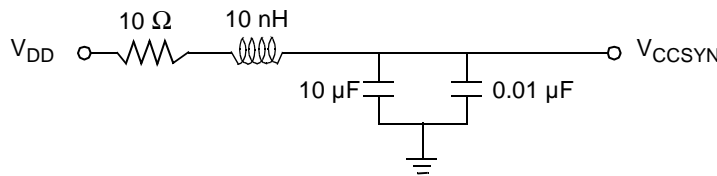

Figure 3. PLL Power Supply Filter Circuit
- PLL Power Supply Filtering.** The MSC8102 V_{CCSYN} power signal provides power to the clock generation PLL. To ensure stability of the internal clock, the power supplied to this pin should be filtered with capacitors that have low and high frequency filtering characteristics ($0.01\ \mu\text{F}$ and $10\ \mu\text{F}$). V_{CCSYN} can be connected to V_{DD} through a $10\ \Omega$ resistor. GND_{SYN} can be tied directly to the V_{SS} (GND) plane. A circuit similar to the one shown in **Figure 3** is recommended. The PLL loop filter should be placed as closely as possible to the V_{CCSYN} pin to minimize noise coupled from nearby circuits. The